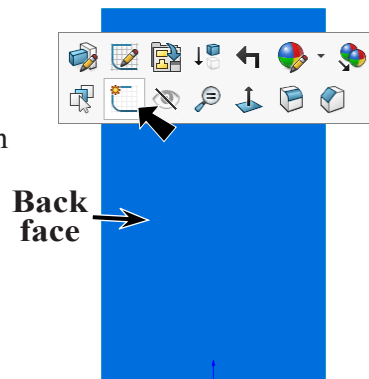
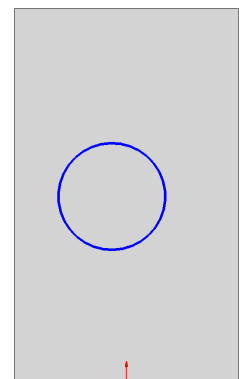

Fig. 7
Fig. 8
Step 2. Click **back face** and click **Sketch**  on the context toolbar, Fig. 7.
Step 3. Click **Circle**  (S) on the Sketch toolbar.
Step 4. Sketch a circle for cartridge hole, Fig. 8.